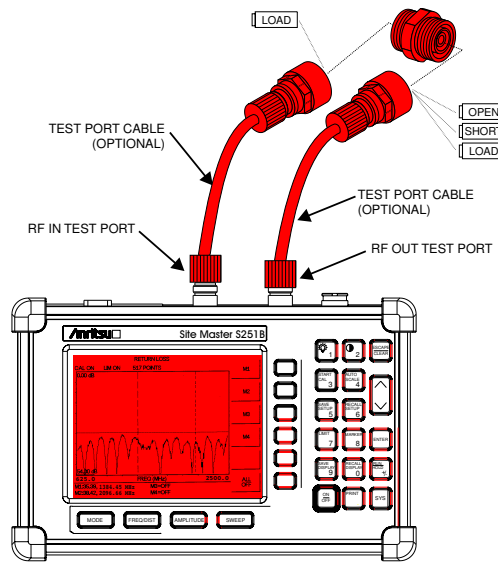

Figure 4-17. Two-Port Measurement Calibration Setup
Step 9. Connect the test port extension cables to the RF In and RF Out test ports as shown in Figure 4-17.